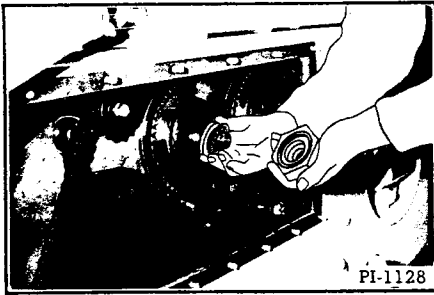

Fig. 15 Remove Thrust Bearings and Races
5. Remove the thrust bearings and races. Notice that each clutch thrust bearing is mounted between two hardened clutch thrust races (Figure 15).
5. Remove the thrust bearing and the hardened thrust race. Notice that the clutch thrust bearing is mounted between two hardened clutch thrust races (Figure 15).